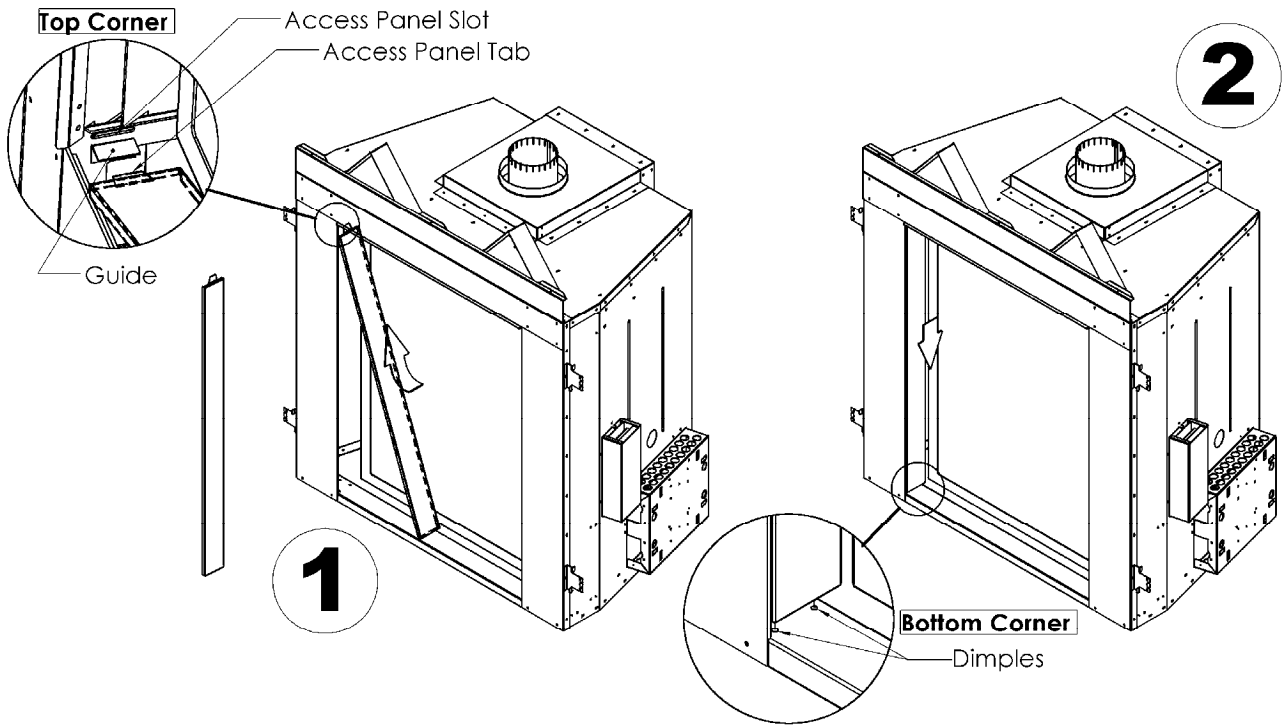

Figure 11 – Installation guide of the Vertical Access Panels.
1. Insert the upper tab into the Access Panel Slot as shown in Figure 11. A small guide is provided to assist in positioning the upper tab.